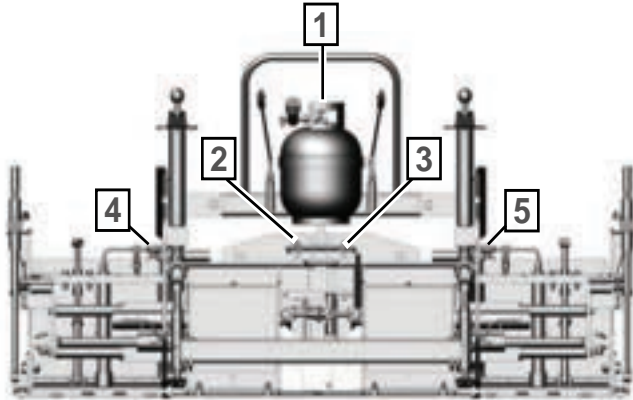

Figure 4-34. Propane Valve Order
IT IS IMPORTANT TO OPEN PROPANE VALVES IN THE ORDER SHOWN BELOW. (Figure 4-34)
1. Ensure ALL propane heat valves are closed by turning valves clockwise (propane tank, main burner valves, main ignitor valve, extension ignitor valves). (Figures 4-34 and 4-36)
2. When the flames extinguish, TURN OFF ALL burner valves clockwise to the OFF position. (**Figures 4-34 through 4-36**)